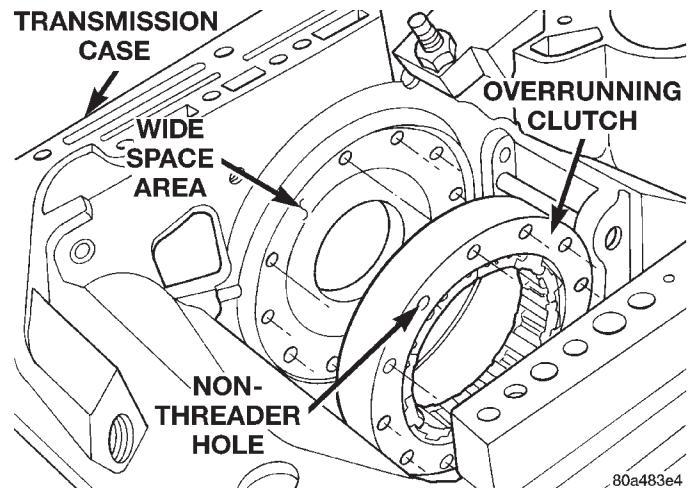

Fig. 93 Clutch Cam Alignment
- (5) Examine bolt holes in overrunning clutch cam. Note that one hole is **not threaded** (Fig. 93). This hole must align with blank area in clutch cam bolt circle.